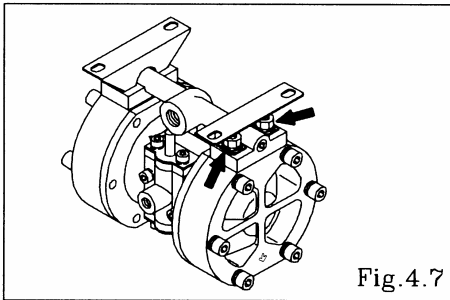

Fig.4.7
- Turn over the main body assembly. [Fig.4.7]
Remove the 4 retainer nuts from the in manifold, and remove the in manifold. [Fig.4.7]